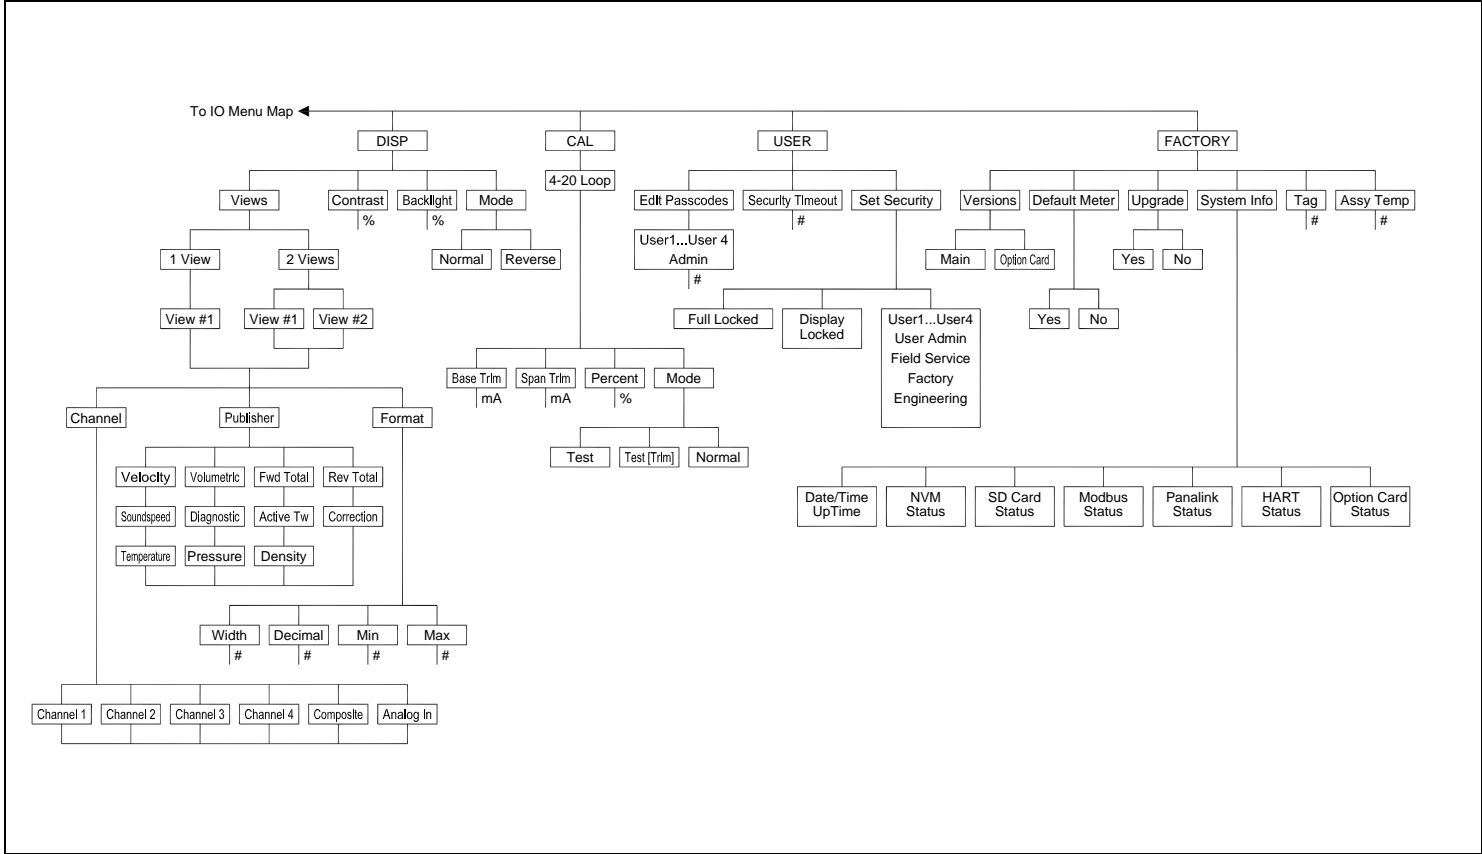

Figure 236: DISP, CAL, USER, and FACTORY Menu Map
- **Figure 236: DISP, CAL, USER, and FACTORY Menu Map**